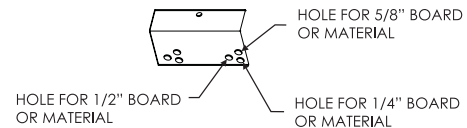
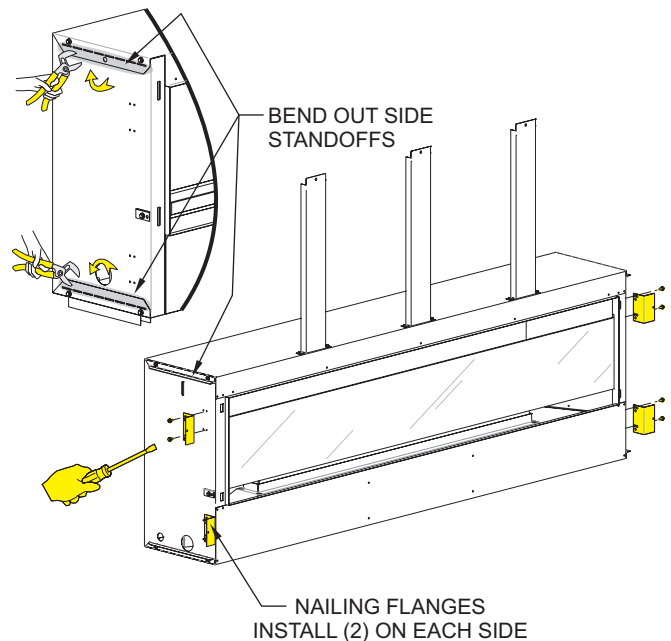

Figure 25
Figure 26
4. On the top and bottom of each side are side standoffs. Use pliers to bend each side standoff 90 degrees away from the cabinet. See Figure 26.
5. Locate nailing flanges in the envelope pack. The holes in the nailing flanges allow for different size boards and locations for the wall boards. See Figure 25. Bend the brackets at 90° angles. Install four nailing flanges with two 10 x 1/2 screws (each). See Figures 26 and 27. The hole closer to the front edge of the fireplace is for Installation Option 1. The other hole is for Installation Option 2. Notice: The non-combustible board provided is 1/2-inch thick.